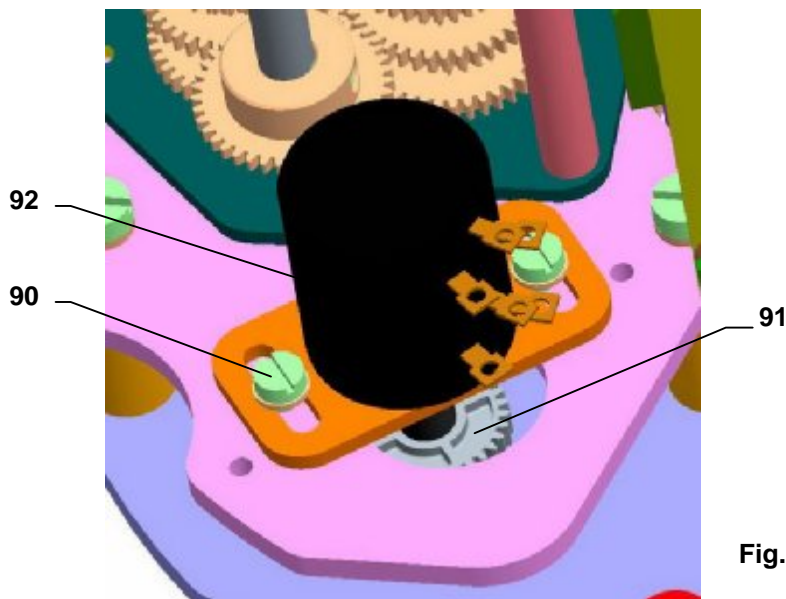

Fig.9
- With variant having resistance transmitter, disengage the transmitter, (Fig.9)
- Turn the position indicator disc (32) to bring a mark identified with a symbol for the „close“ direction in coincidence with a mark on the upper cover aperture.
- Turn the upper part of the position indicator disc (32) to bring a mark identified with a symbol for the „open“ direction in coincidence with the mark on the upper cover aperture.
4.5 Adjustment of resistant transmitter (Fig.9)